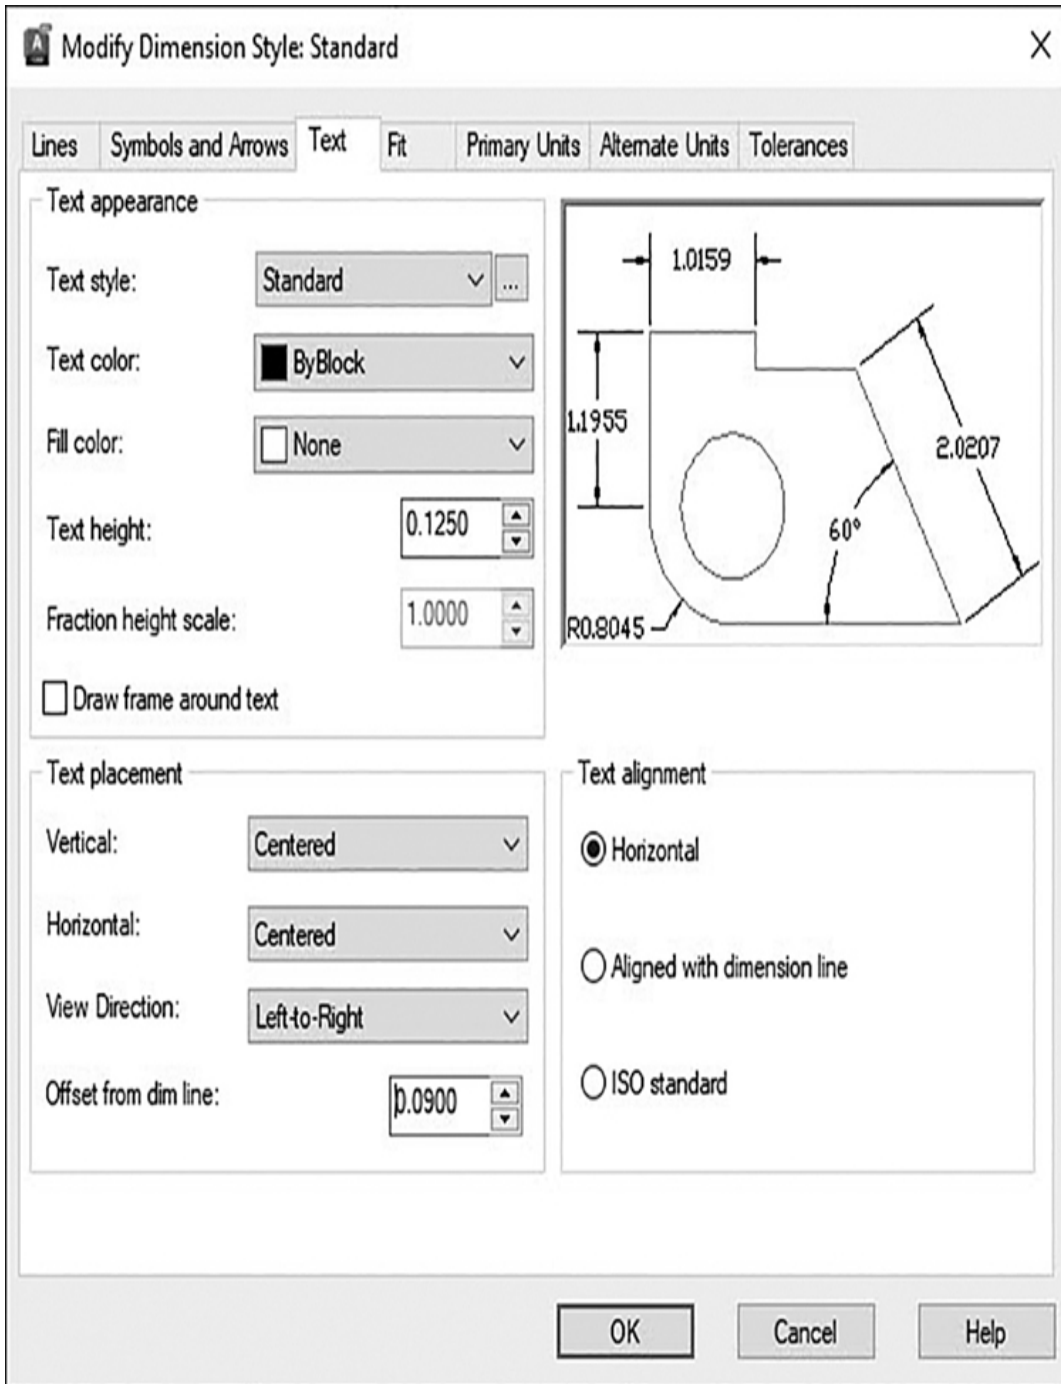

Figure 2-33
- 5** Choose the **Text** tab and change the **Text height** value to **.125** (see Figure 2-33).